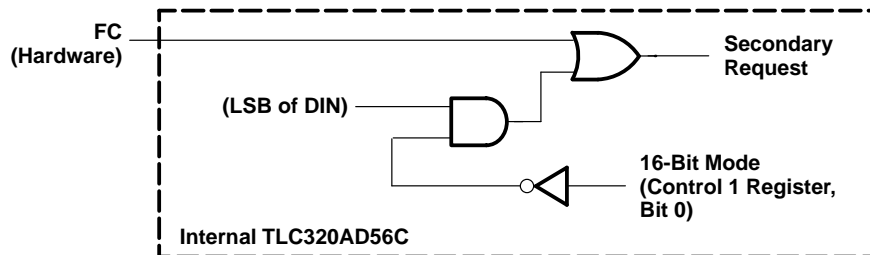

Figure 3–2. Hardware and Software Ways to Make a Secondary Request
1. Figures 3–3 and 3–4 show the two different ways FC requests secondary communication words as well as the timing for \overline{FS} , DOUT, DIN, and SCLK. The examples span two primary communication frames. Figure 3–3 shows the use of hardware function control.
In Figure 3–3, FC is clocked in and latched on the rising edge of frame sync (\overline{FS}). This causes the start of the secondary information 32 FCLKs after the start of the primary communication frame. Read and write examples are shown for DIN and DOUT.